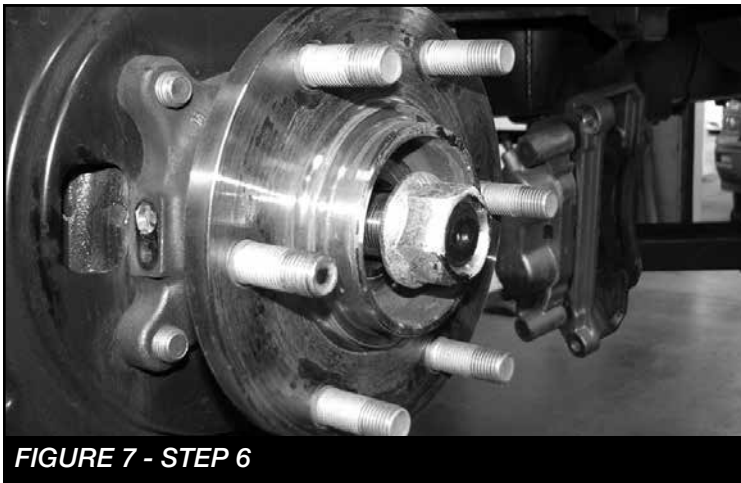

FIGURE 7 - STEP 6
6. Remove the cotter pin and nut from the C.V. Axle at the spindle and save the nut and discard the cotter pin. **SEE FIGURE 7**